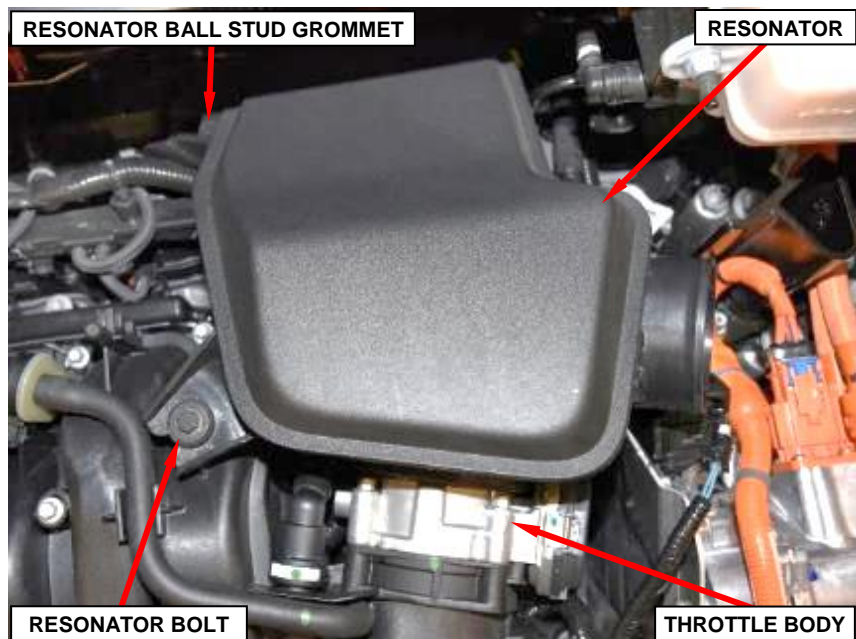

Figure 21 – Resonator
41. Remove and save the bolt from the resonator (Figure 21).
42. Pull the resonator straight up to release the resonator grommet from the ball stud on the right cylinder head cover. Disengage and remove the resonator from the throttle body inlet (Figure 21).